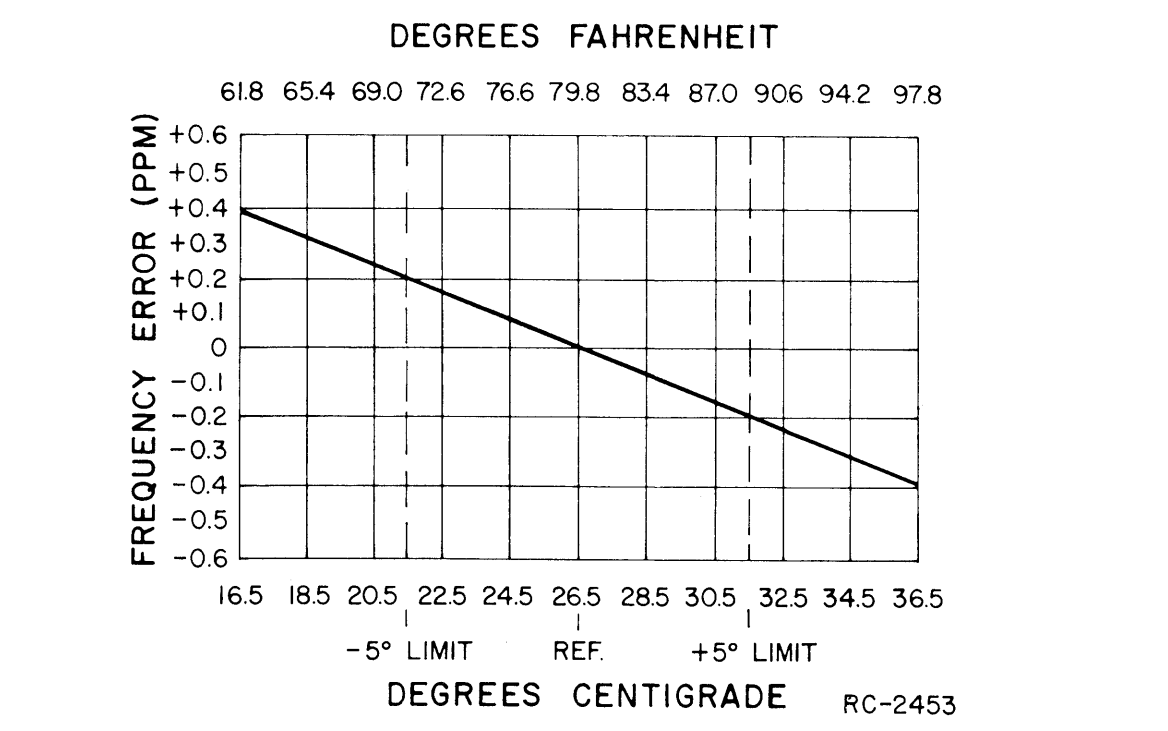

Figure 5 - Frequency Characteristics Vs. Temperature
To Set ICOM frequency using "beat frequency" method, the temperature should be at 26.5°C (79.8°F). If the temperature is not 26.5°C, then offset the "ON FREQUENCY" signal (at the receiver input), as a function of actual temperature, by the frequency ERROR FACTOR (in PPM) shown in Figure 5.
- Maintain the radio at 26.5°C (±10°C) and offset the oscillator, as a function of actual temperature, by the frequency error factor shown in Figure 5.
- To hold setting error to ±0.35 PPM (which is considered reasonable for 2 PPM ICOMs): Maintain the unit at 26.5°C (±5°C) and offset the oscillator, as a function of actual temperature, by the frequency error factor shown in Figure 5.